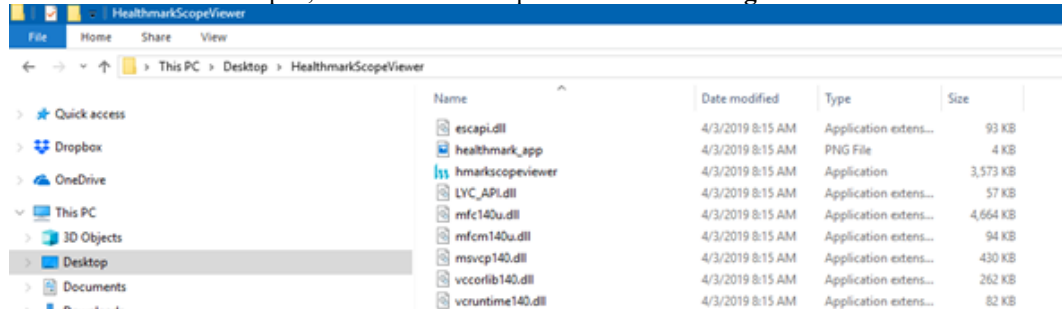

Figure 3
2. Once the folder is open, click on hmarkscopeviewer.exe file. **Fig. 3**